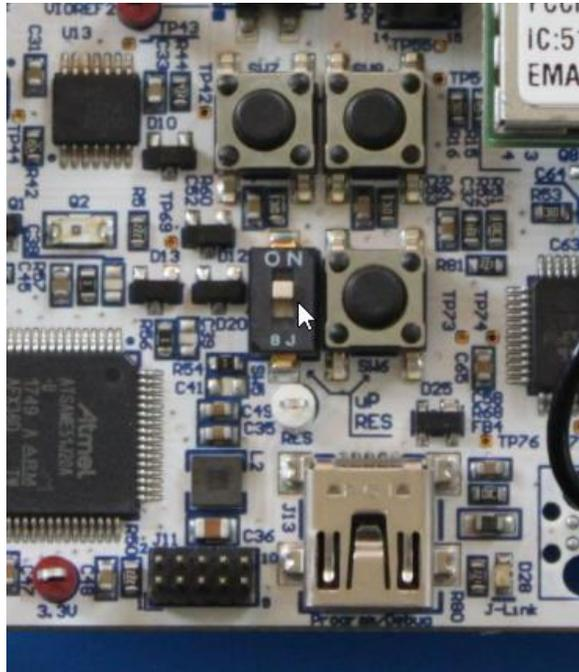

Figure 14
- Hold ema:Play's on-board MCU (U16) in RESET by moving SW5 to the ON position as shown in *Figure 14*.